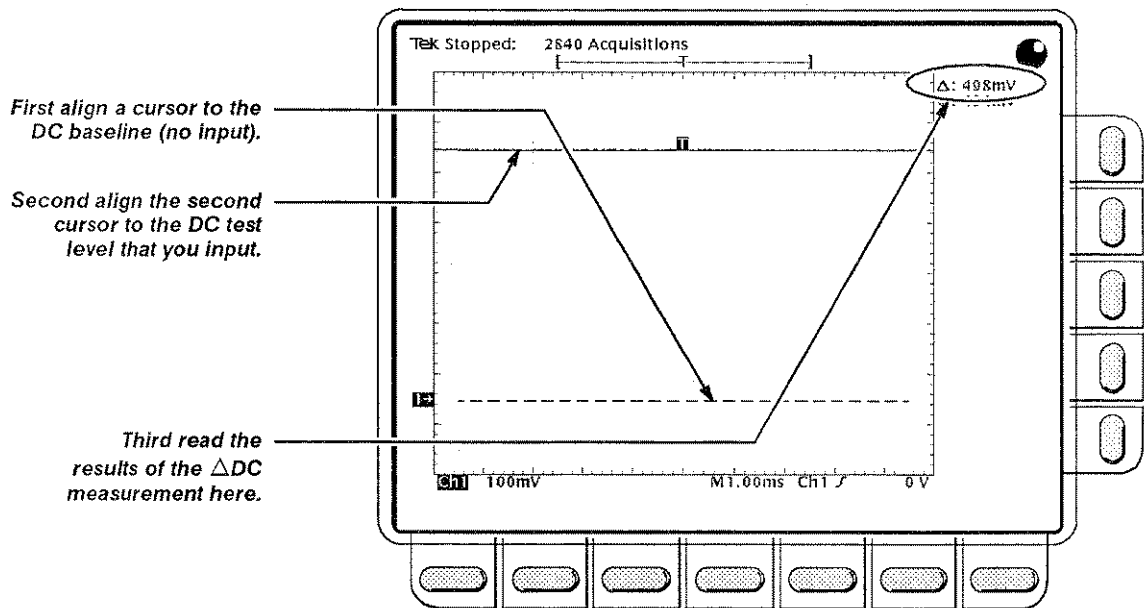

Figure A-6: Measurement of the DC Accuracy for Delta Measurements
- Press **CLEAR MENU**. Read the measurement results from the delta (Δ :) readout, not the absolute (@:) readout. See Figure A-6 on page A-45.